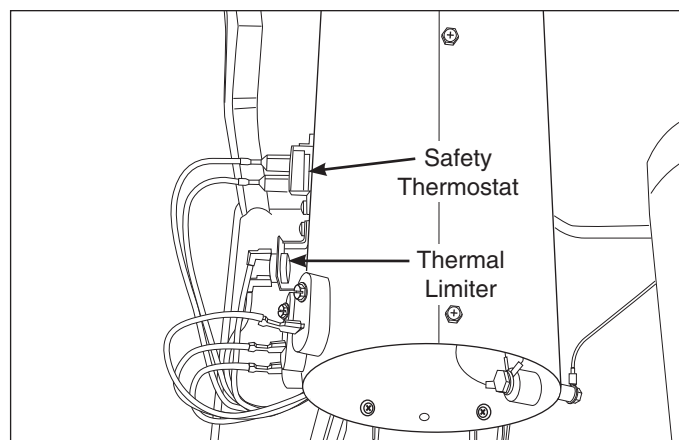

Figure 4-48.
3. Using a #2 square bit screwdriver, extract the two screws securing the thermistor mounting bracket to the heater assembly. (See Figure 4-48)